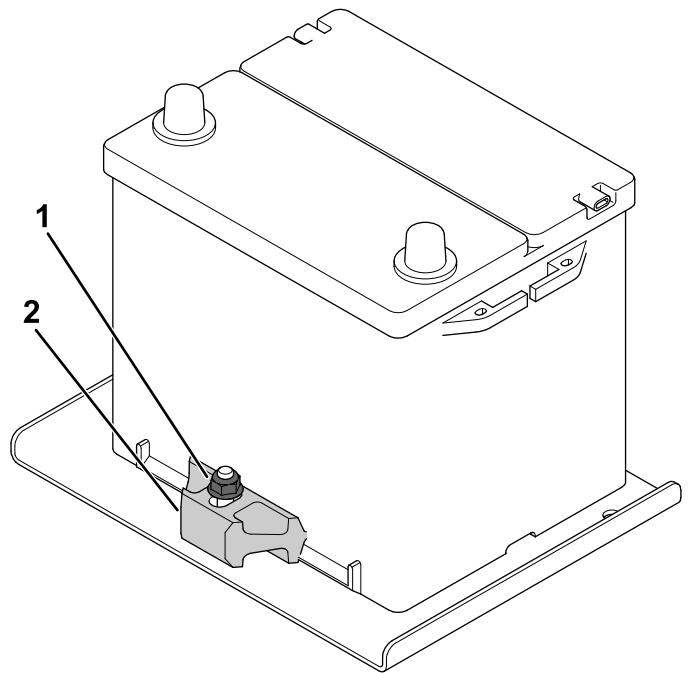

Figure 95
2. Loosen the locknut securing the battery retainer and remove the battery from the tray (Figure 95).
1. Place the battery on the battery tray and secure the battery to the retainer by tightening the locknut (Figure 95).